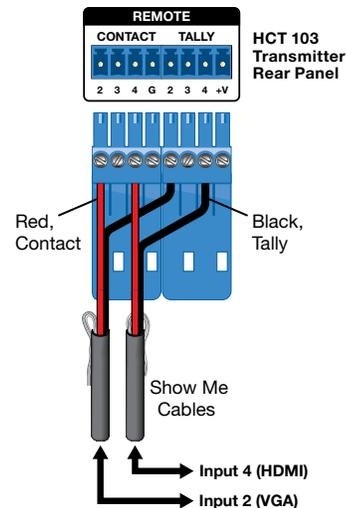

Figure 5. Contact and Tally Wiring to Transmitter
2. Connect the black (Tally Out) and red (Contact In) pigtail wires as shown in figure 5. The number adjacent to the Tally Out and Contact pins must correspond to the video input on the transmitter.